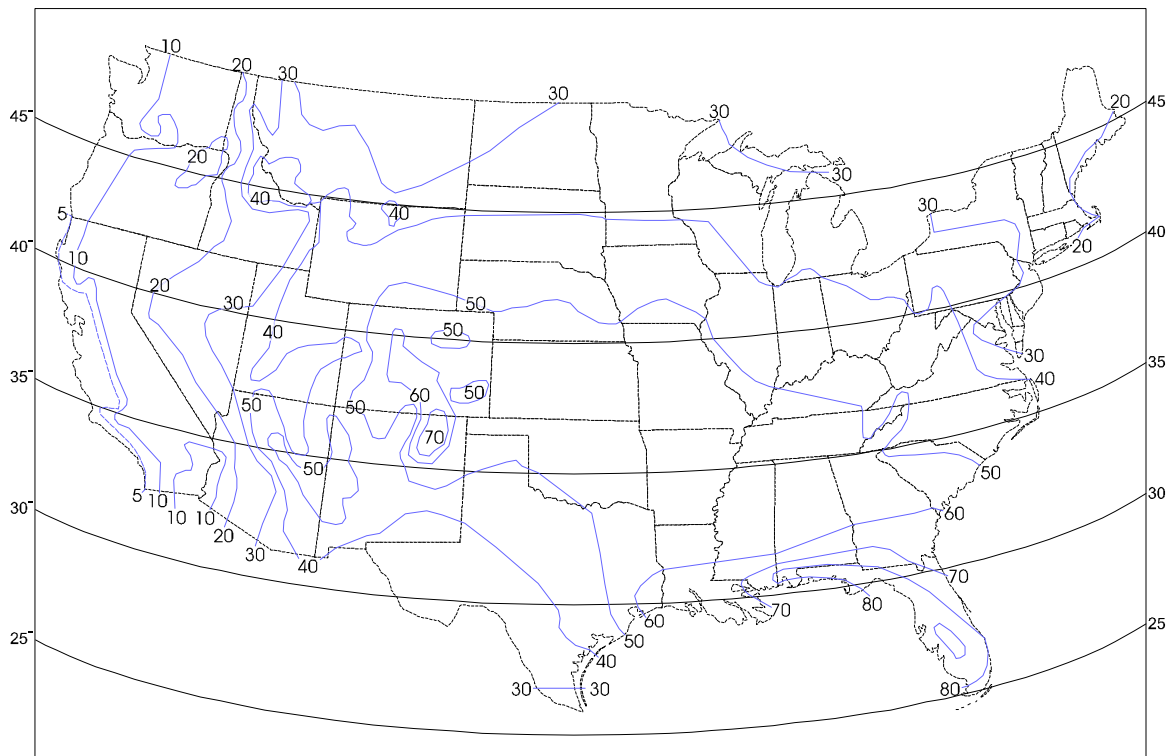

Figure 4-1 - Average Thunderstorm Days of the Year (for Continental USA)
The map of Figure 4-1 shows the average annual number of thunderstorm days (Isokeraunic level) for the various regions within the continental U.S.A. This map is not representative of the severity of the storm or the number of lightning strikes since it does not take into account more than one lightning strike in a thunderstorm day. The Isokeraunic or Isoceraunic number provides a meteorological indication of the frequency of thunderstorm activity; the higher the Isokeraunic number the greater the lightning strike activity for a given area. These levels vary across the world from a low of 1 to a high of 300. Within the United States the Isokeraunic level varies from a low of 1 to a high of 100.
1. Using the map of Figure 4-1 (or a comparable meteorological map for your local), find the Isokeraunic level (I) for your area. Then using Chart 1, find "A" for your area.
2. Refer to Figure 4-1 to find the latitude. Then using Chart 2, find "B" for your latitude (Lat.°).